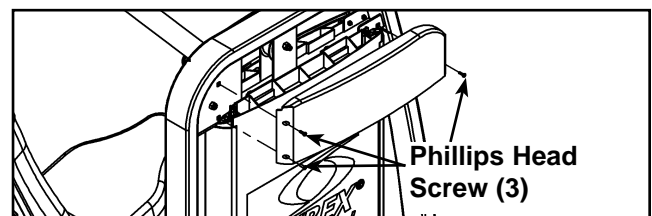

Figure 5
F. Remove the three Phillips head screws securing the top (back) shroud and carefully remove the shroud. See Figure 5.